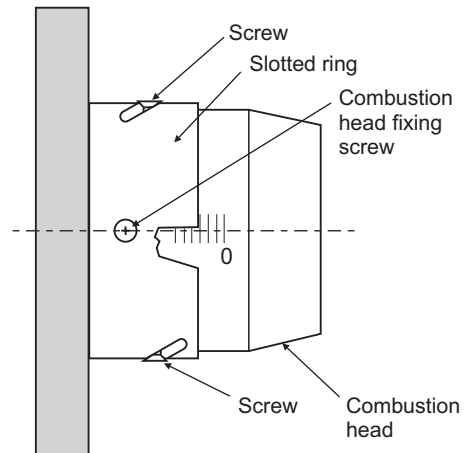

Fig. 32
- 1 **Combustion head** - Loosen the two screws securing the combustion head (**NOT** the screws in the slotted ring, Fig. 32) and withdraw the head. Clean and refit the combustion head.
To adjust the head setting, refer to Fig. 32 and proceed as follows: Loosen the two screws in the slotted ring - **NOT** the two fixing screws, and turn the blast tube until '0' lines up with the edge of the slotted ring. Tighten the two screws.